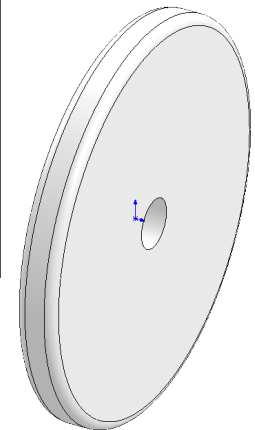

Fig. 11
Step 2. **Expand Plastics** (click +) in the material tree and select **PS HI**. Click **Apply** and **Close**, **Fig. 11**.